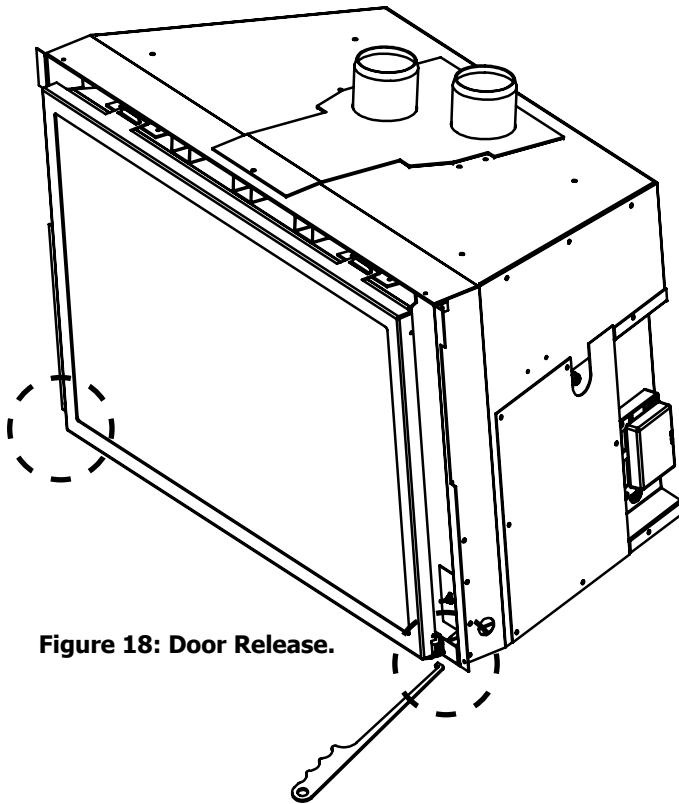
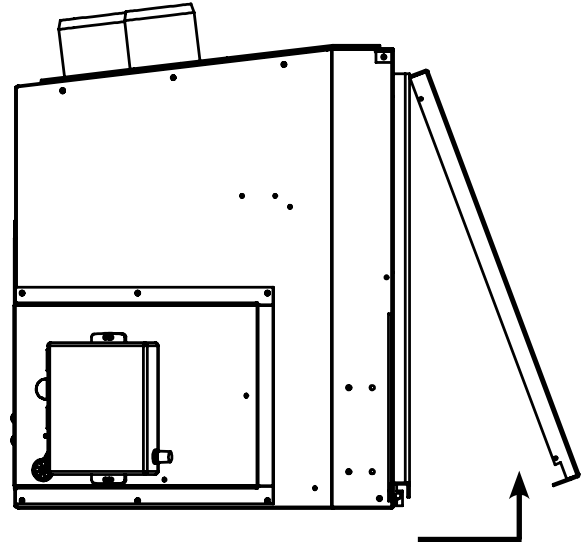

Figure 18: Door Release.
Figure 19: Door Removal.
Remove the glass door by placing the hooked end of the door release tool in the hole on the door latch mechanism (see Figure 18) and pulling the latch out then up. When the two (2) latches have been released, tilt the bottom of the door forward and then lift up to unhook the top door tabs (see Figure 19).